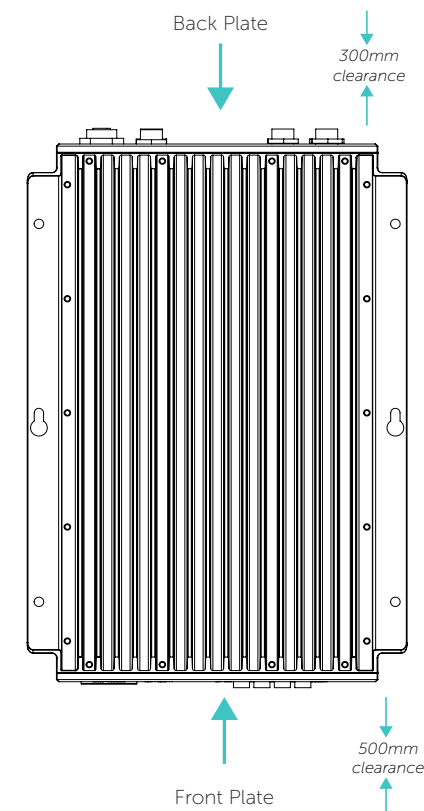
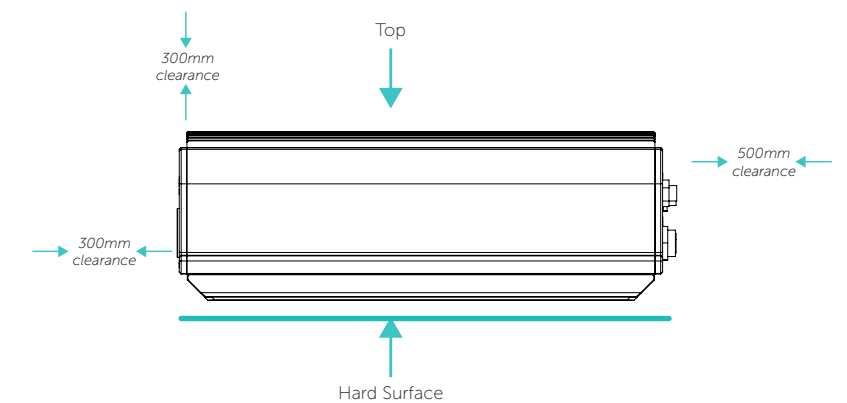

Figure 4. DRX Bulkhead Mount
Figure 5. DRX Horizontal Mount
- » A vertical position is ideal for optimal thermal performance (Transducer Connectors front face down). See "Figure 4. DRX Bulkhead Mount" on page 15
- » The second option is horizontal on a hard, flat surface. See "Figure 5. DRX Horizontal Mount" on page 15.
- » If mounted in an enclosed space, forced ventilation is required to maintain an ambient temperature within the stated limits around DRX. See "Figure 4. DRX Bulkhead Mount" on page 15 and "Figure 5. DRX Horizontal Mount" on page 15. Leave slack in cables for maintenance and servicing ease.
Figures 4 and 5 show clearance required for cabling and forced air ventilation if DRX is in an enclosed space.